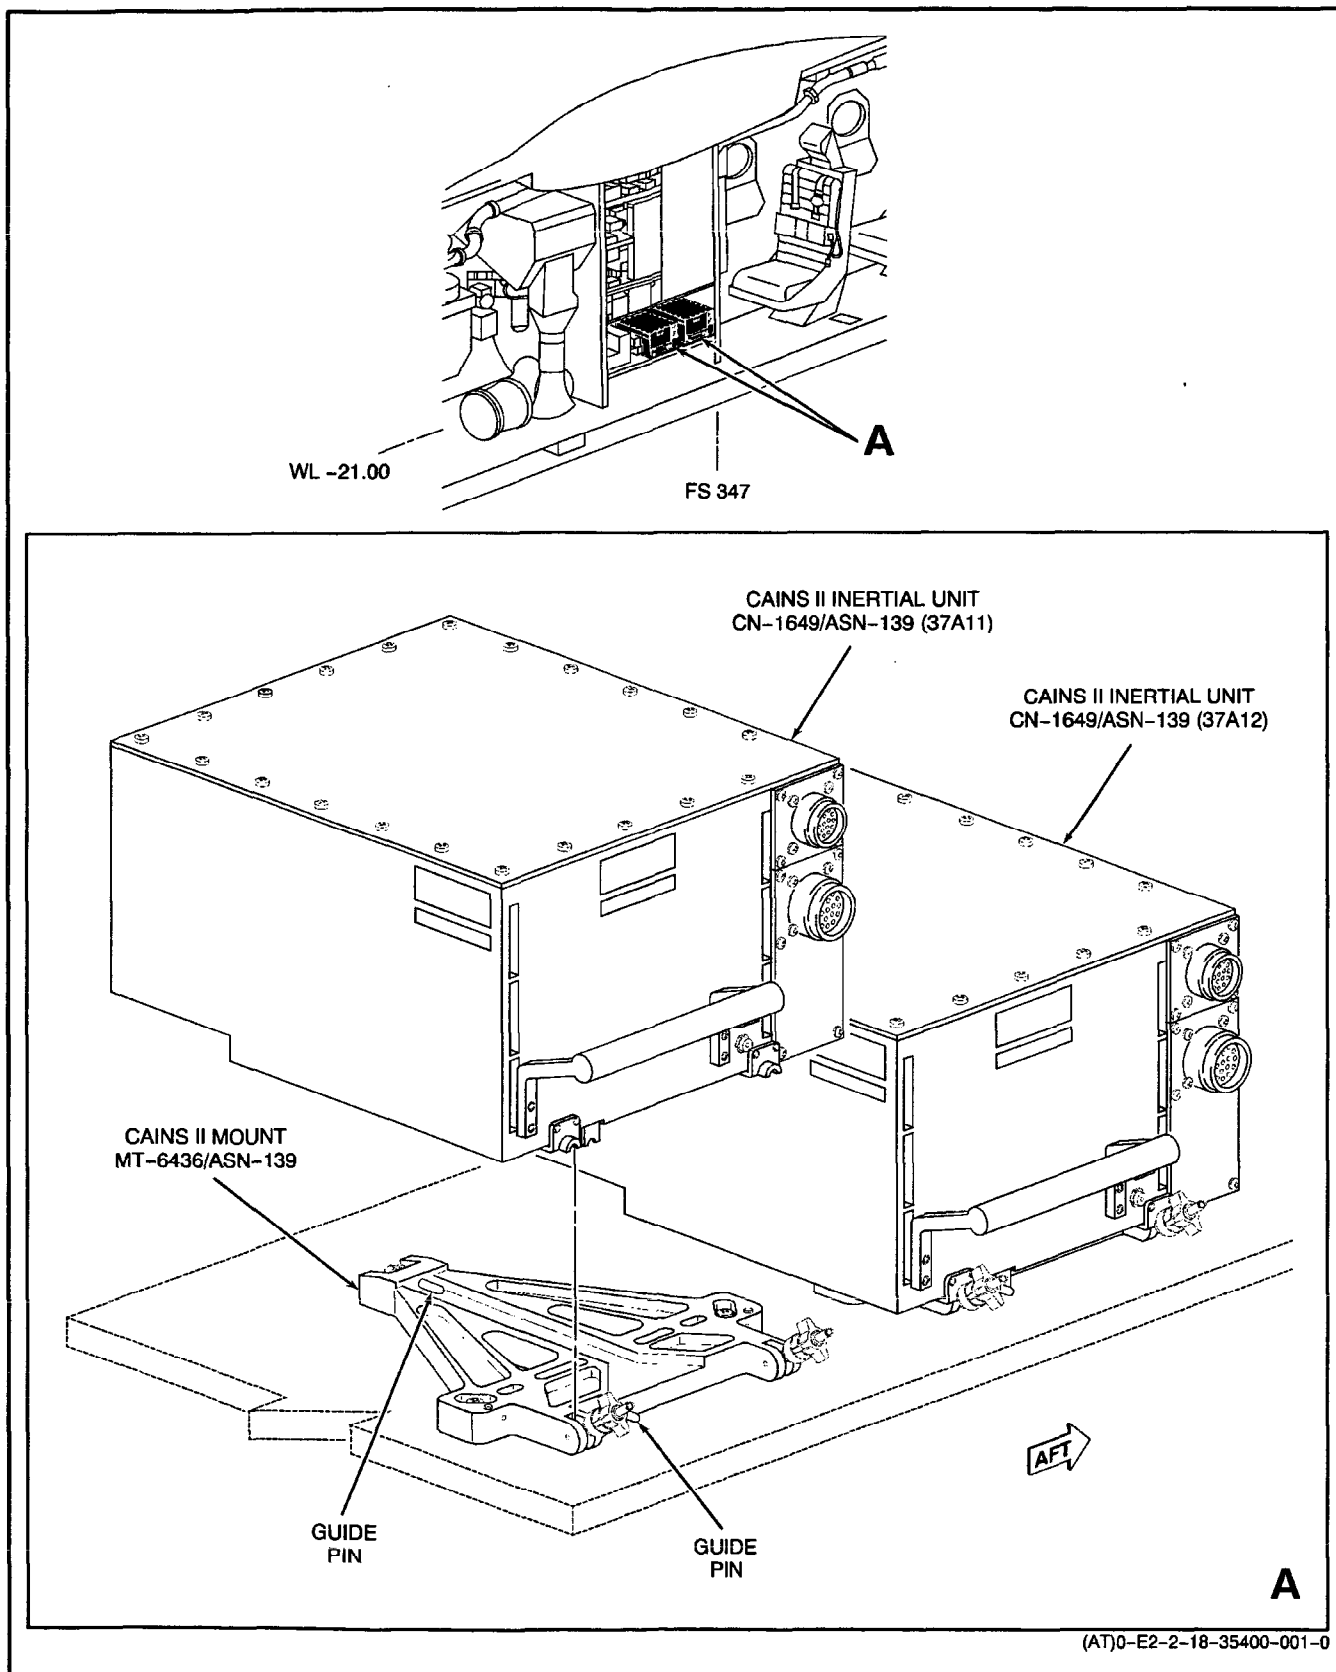

Figure 1. Removal and Installation of CAINS II Inertial Navigation Unit CP-1649/ASN-139
**3. REMOVAL.** (Figure 1.)
4. **INSTALLATION.** (Figure 1.)